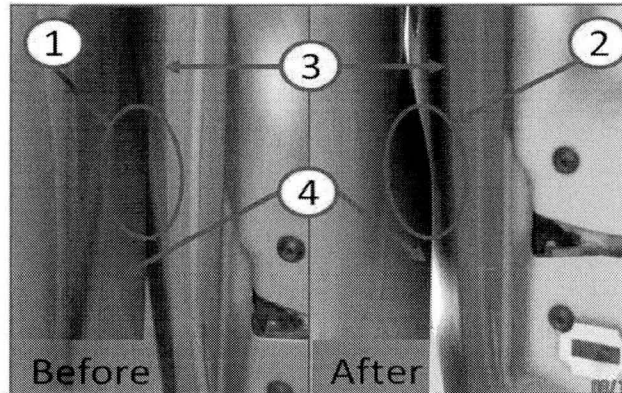

Fig. 10 Improved Panel Clearance
13. Validate door trim panel clearance to rear quarter panel (Minimum Gap is 3/16 in / 6 mm) (Fig. 10).